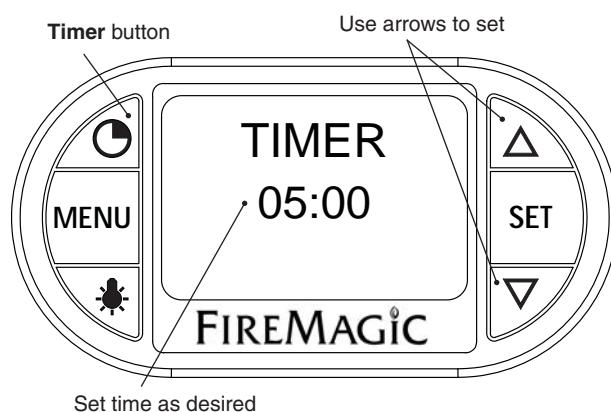

Fig. 24-4 Timer screen
1. Press the timer button. Use the arrows to set the desired amount of time (see Fig. 24-4.)